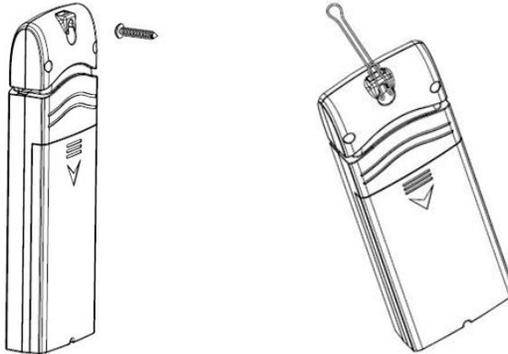

Figure 7: Indoor sensor mounting
- Use a screw or nail to affix the remote sensor to the wall, as shown on the left side of Figure 7, or
- Hang the remote sensor using a string, as shown in right side of Figure 7